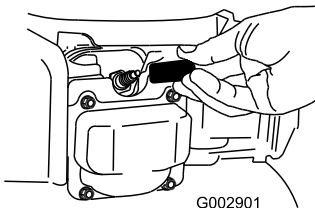

Figure 32
2. Disconnect the spark-plug wire from the spark plug (Figure 32) before performing any maintenance procedure.